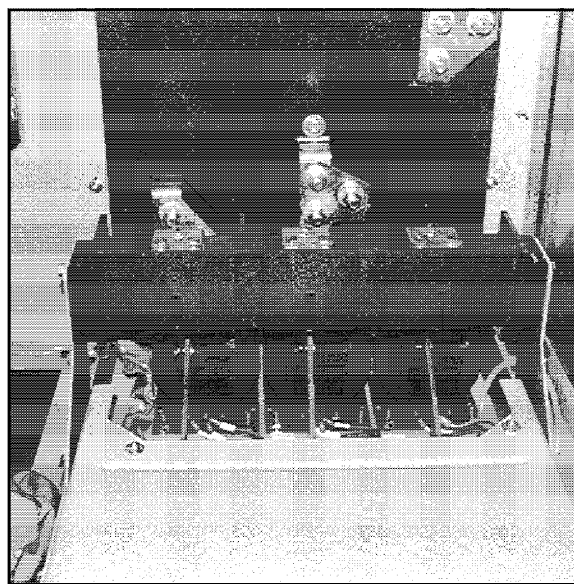

Fig. 14 Load Receptacle
D. Load Receptacle and Current Transformers (Fig. 14)